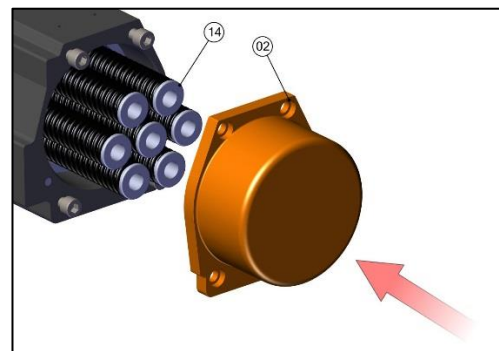

Fig No.33
- c) Place the Spring Cartridge (14) in pockets of piston. (refer Fig No.33)